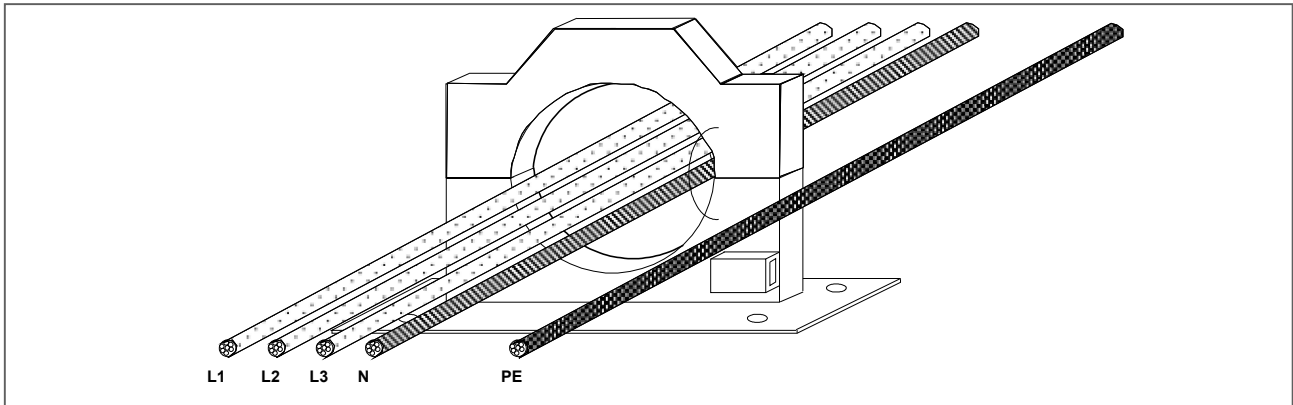

Figure 2.15. Installing the cables to the sum current transformer
Installation of a fixed sum current transformer is made prior installing the cables. Placing must be done carefully. **Don't place the transformer near a high current cable**, minimum distance is 100 mm. Transformers are fastened to their places. When cabling, the phase conductor (1-phase network) or the phase conductors (3-phase network L1, L2, L3) and the neutral conductor (N) are pulled through the sum current transformer according to figure 2.15.